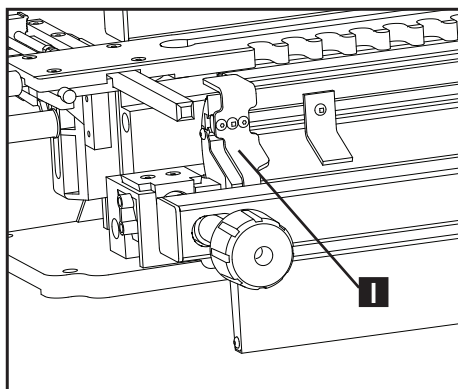

Fig. F9
7. Loosen silver left edge guide (I) Fig. F9 with square driver and move it to the far left position.